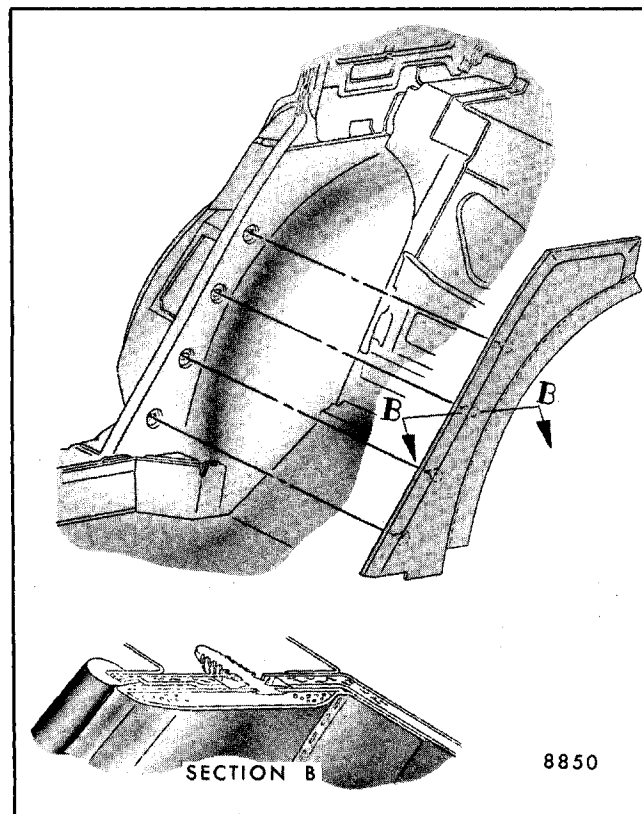

Fig. 6-9-Quarter Lower Trim Attachment - K Style
3. On K style, using tool J-24596, BT-7323 or equivalent, disengage quarter lower trim to inner panel trim fasteners (Fig. 6-9).